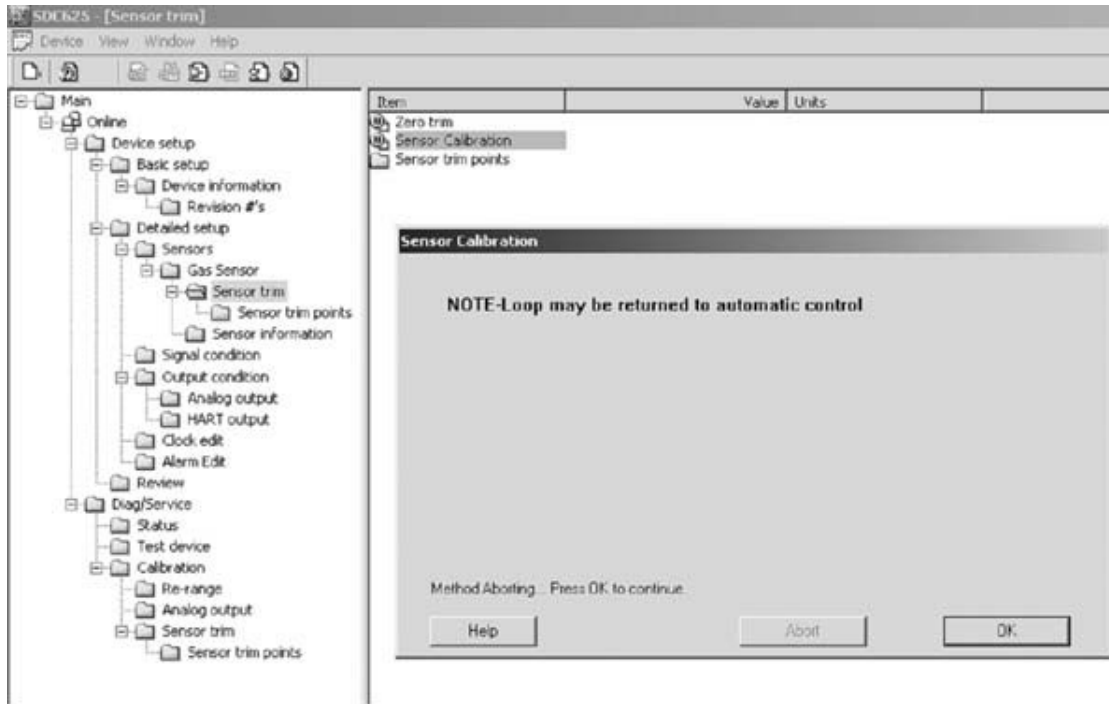

Fig. 46 Loop control reminder message
After the 30-second countdown screen (or the selection confirmation screen for an Oxygen sensor), the device should send back a status message indicating that the device is attempting to adjust the internal calibration. The user is instructed to apply Zero gas (or room air) at this time. The device waits for a stable reading to occur and then saves the zero calibration data automatically. The user can abort the process at any time by selecting the ABORT button. See Fig. 46 for a view of this screen.
After the 30-second Span initialization, a Span adjustment screen displays and continually updates with the gas (PV) reading, units and type information. Once the device detects a stable reading, the data is stored automatically and the user is notified of the completion status. See Fig. 46 for a sample view of the Span adjustment screen. The user can abort the procedure at any time and the prior calibration data is restored.